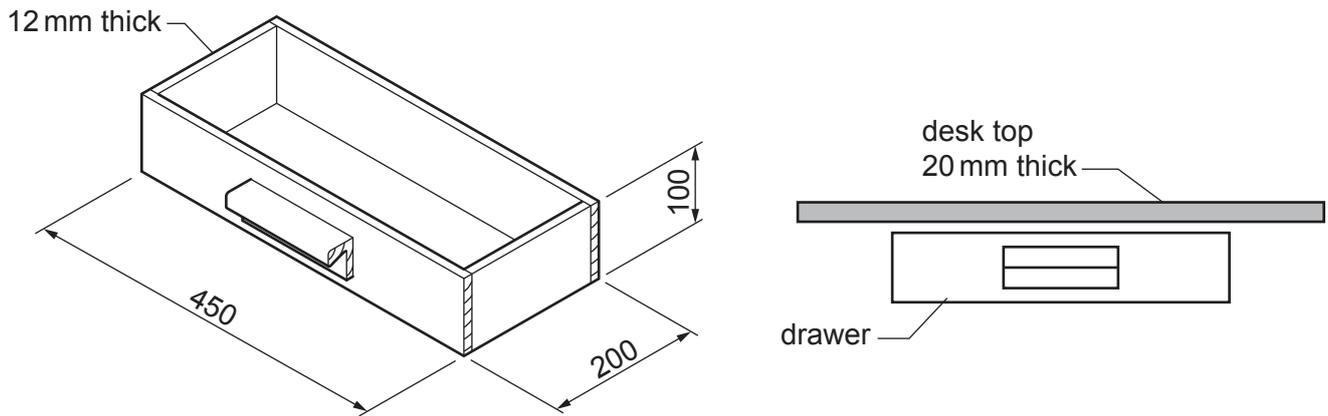

Fig. 12.5
- (f) A small drawer will be added to the desk and supported below the desk top. Fig. 12.5 shows details of the drawer and its position.